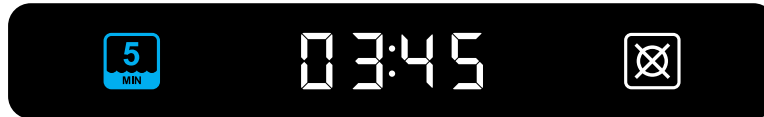

Figure 46 – Secondary Control Panel Display — Wash Cycle Count Down
4. During the wash cycle, the selected wash cycle counts down. The remaining time is shown on the display (Figure 46).